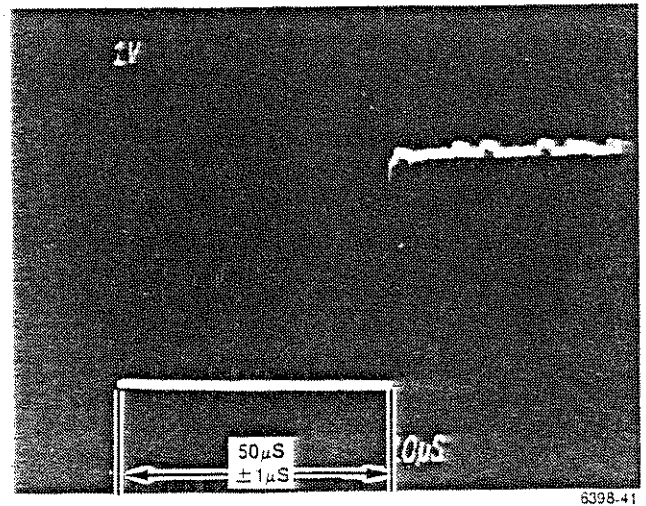

Fig. 4-14 Waveform to adjust retrace blanking
- Adjust R330 for a negative pulse width of 50μ s $\pm 1 \mu$ s (5 div ± 0.1 div) as shown in Figure 4-14.